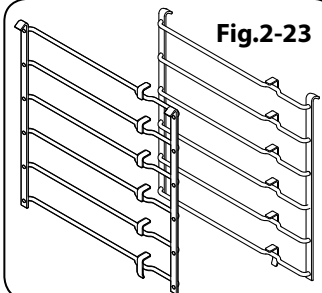

Fig.2-24
- 4 flat cooking shelves (**Fig.2-24**)